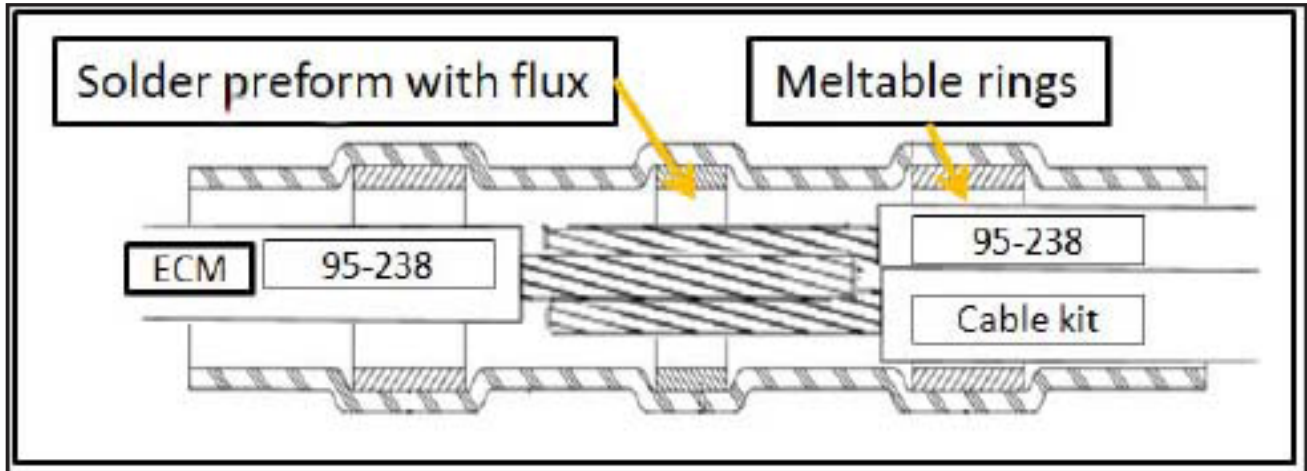

Figure 32 - Install a Solder Sleeve for 5V OEM Sensor Supply Splicing
- 2.19. Locate the wire 95-238 (5V OEM sensor supply red wire) at position 8 of the ECM connector, measure 5 inches and cut the wire. Remove 1/2 inch of insulation at both ends of wire 95-238 and at the end of the remaining red wire of the front-to-back cable and insulation on both the wire from position 8 and the remaining wire of the new wire kit. Install a solder sleeve (N93457-03) over the 3 wires and heat evenly until the solder penetrates into the wires (see Figure 32).